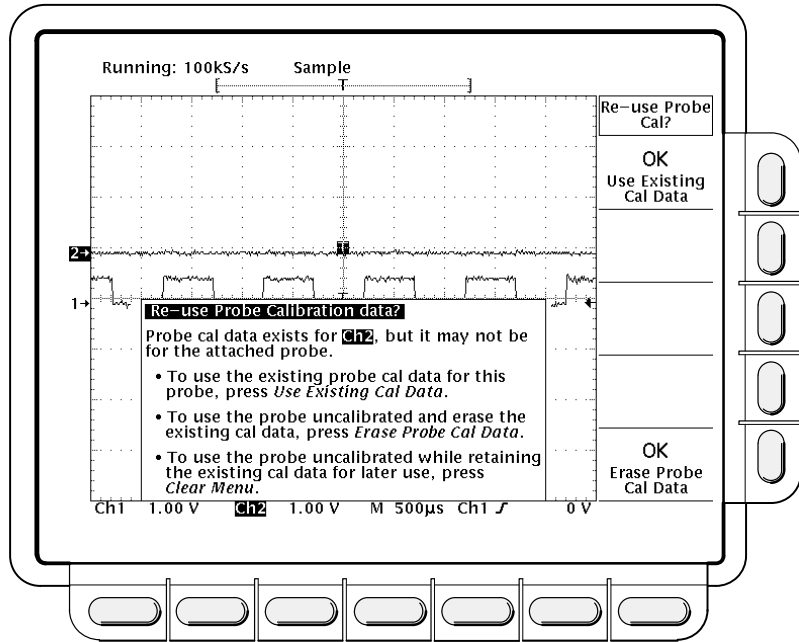

Figure 3-51: Re-use Probe Calibration Data Menu
- If a probe has a simple oscilloscope interface and the probe attenuation factor is the same as was stored at the last Probe Cal, the oscilloscope cannot determine whether it is the same probe. Therefore, it displays the *Re-use Probe Calibration data?* menu (see Figure 3-51).